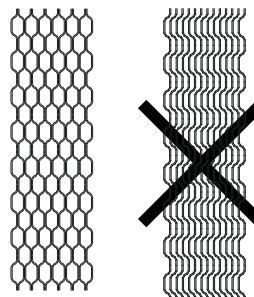

Fig. 10
- When arranged correctly, the stacked plates form a honeycomb pattern (Fig. 10).